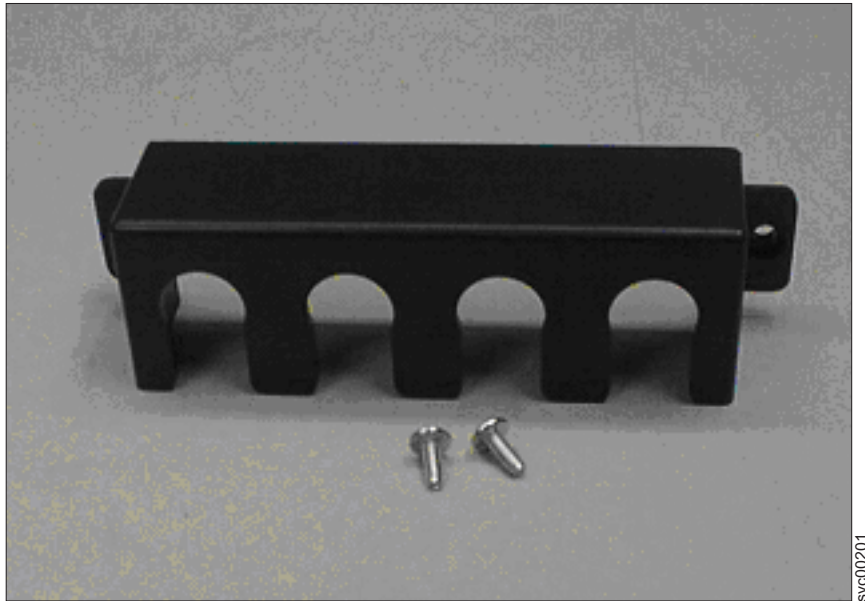

Figure 305. 2145 UPS-1U power cable-retention bracket hardware
**Note:** The 2145 UPS-1U power cable-retention bracket (shown in Figure 305) can be attached only to the most recent versions of the 2145 UPS-1U. Older versions do not have the correct mounting holes.